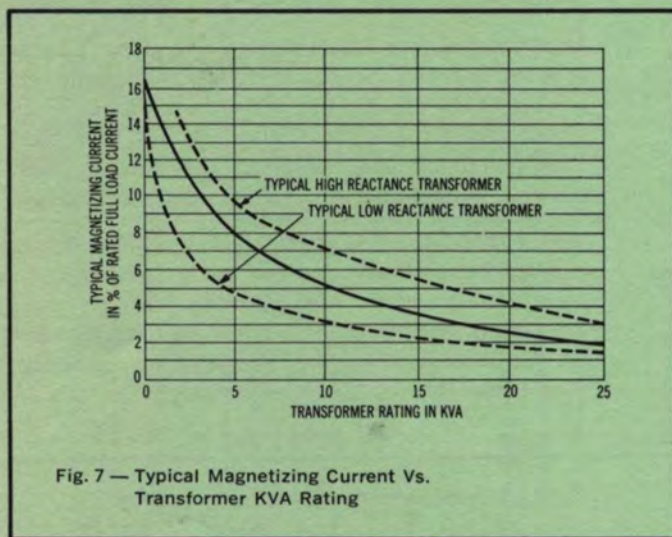

Fig. 7 — Typical Magnetizing Current Vs. Transformer KVA Rating
- (A) Determine (from manufacturer specifications or by measurements) the transformer KVA rating, and estimate whether it has a high, medium, or low reactance. (If the transformer is constructed so that the secondary windings are tightly coupled, electrically, to the primary windings, it will probably have a low reactance.)
- (B) Refer to Figure 7 and, using KVA rating and estimated reactance, choose the best estimate of % magnetizing current (% $I_m$ ).